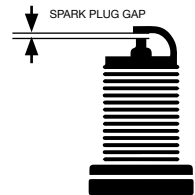

Figure 28
- Spark plug gap (the acceptable limit of 0.027–0.032 in. [0.70 – 0.80 mm]) (see Figure 28).